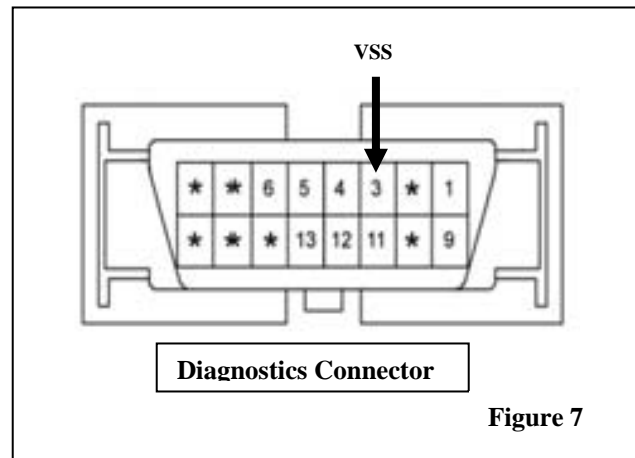

Figure 7
3. **VSS:** Locate the diagnostics connector under the driver side dash. Look for bottom **black connector** at bottom of dash panel. Connect the **Violet Wire** from the Main Wiring Harness to the **Brown Wire** in **Pin 3** of the connector. **Figure 7**